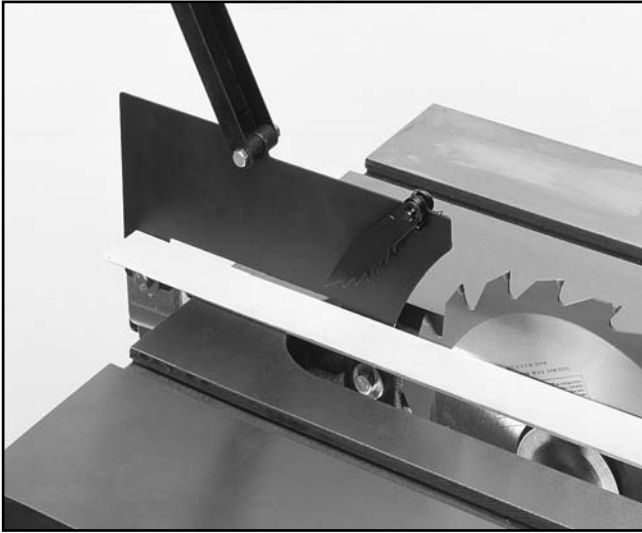

Figure 10.
3. Next, set a straightedge against the face of the saw blade and the blade guard. **Figure 10.** Loosen and adjust the rear blade guard bracket to set the alignment at the rear, then add washers as necessary between the splitter and the front mounting bracket to gain adjustment in the front.